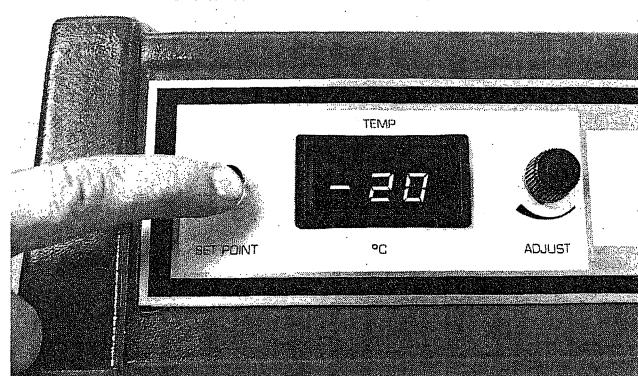

Figure 9
2. Depress and hold "SET POINT" button, Figure 9.
3. Turn the "ADJUST" knob to obtain the desired operating temperature, as displayed, Figure 9.